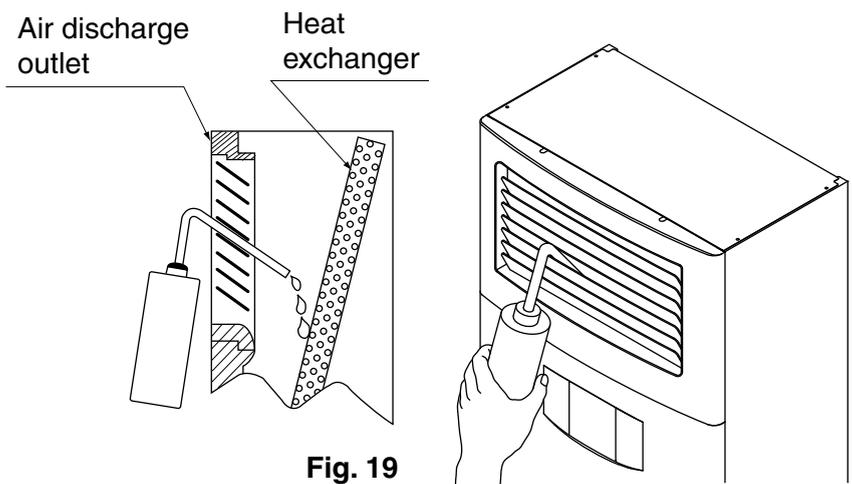

Fig. 19
- Carefully pour approximately 1 liter of water through the air discharge outlet so that it falls directly onto the heat exchanger at an angle without splashing. (Refer to Fig. 19)